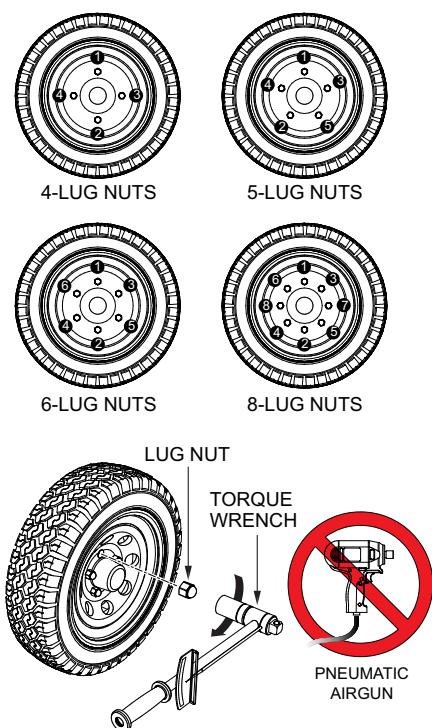

Figure 43. Wheel Lug Nuts Tightening Sequence
2. Torque all lug nuts in sequence. See Figure 43. **DO NOT** torque the wheel lug nuts all the way down. Tighten (torque) each lug nut in three separate passes as defined by Table 11.